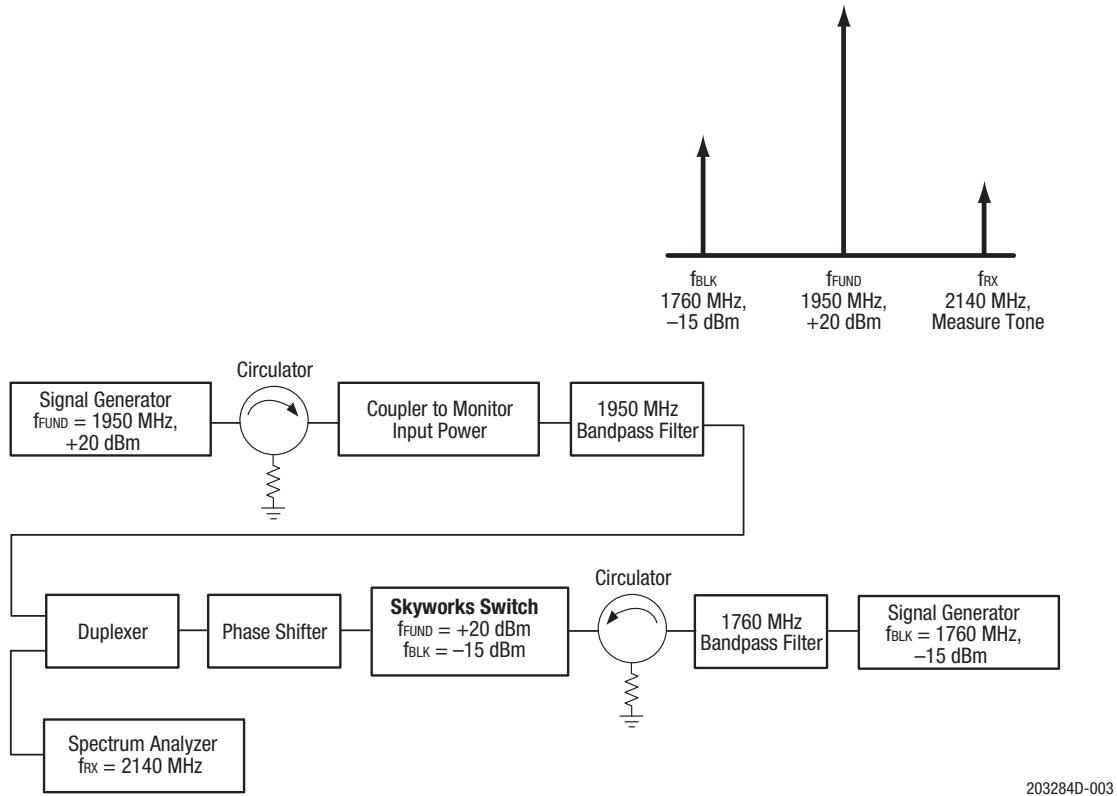

Figure 3. Typical Third Order Intermodulation Test Setup
Figure 3 illustrates the test setup used to measure intermodulation products. This industry standardized test is used to simulate the WCDMA linearity of the antenna switch. A +20 dBm Continuous Wave (CW) signal,  $f_{\text{FUND}}$ , is sequentially applied to the TRX ports, while a -15 dBm CW blocker signal,  $f_{\text{BLK}}$ , is applied to the ANT port.